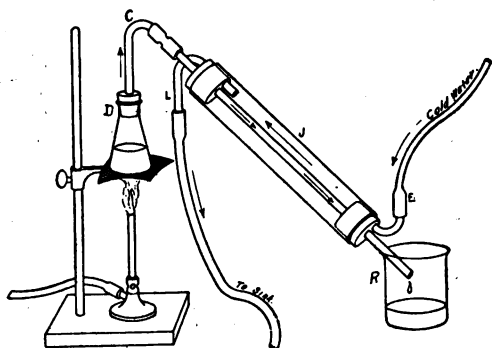

FIG. 21.—DISTILLATION
**54. Distillation.** Since different liquids boil at different temperatures, if two mixed liquids or a solution of a solid in a liquid are heated, the one boiling at the lower temperature will vaporize first. If this vapor is passed through a tube that is kept cool (Fig. 21), the vapor will condense and may be col-